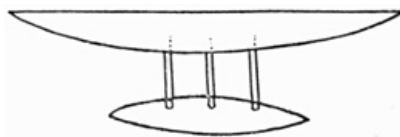

FIG. 157
**A Flying Proa of the Ladrones** (Fig. 156). These boats are used chiefly in East Indian waters. They are remarkable for their speed. Bow and stern are equally sharp pointed. One side of the proa is flat, and in a straight line from bow to stern (Fig. 157), but the other is rounded as in other vessels. The outrigger prevents the boat from turning over.